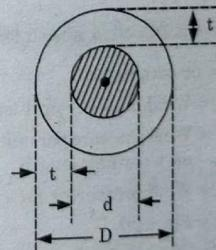

Fig. 3.4.1. Ice coated conductor.
- Consider a conductor with diameter  $d$ . It is coated with ice thickness  $t$  as shown in Fig. 3.4.1. Hence the overall diameter of the coated conductor is  $D$ .